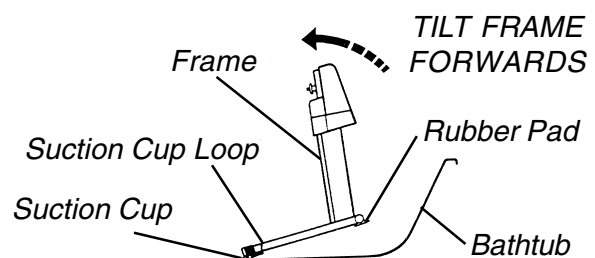

FIGURE 8 - REMOVING THE BATH LIFT FROM THE BATHTUB
REMOVING THE BATH LIFT FROM THE BATHTUB (FIGURE 8)
2. Remove frame from bathtub (FIGURE 8).